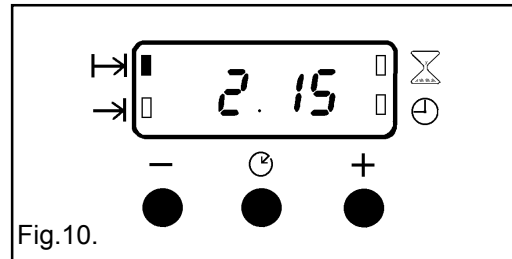

Fig.10.
- iii) To set the length of cooking time, press the Selector Control button until the 'Cook Time' (H→) indicator is illuminated. Press the increase control (+) until the required length of cooking time is displayed, e.g. 2 hrs 15 mins as Fig. 10. Depress the decrease control (-) if necessary.